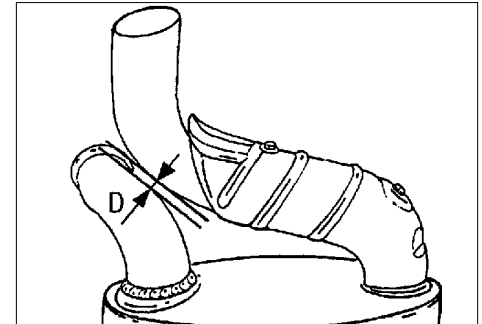
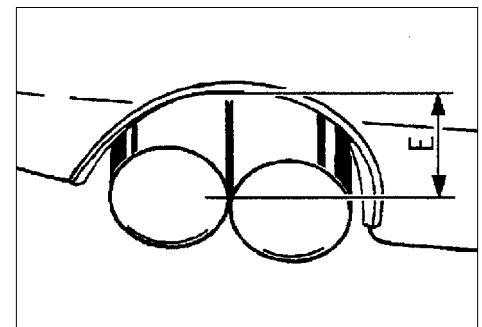

Figure 5
Figure 6
- gap D = 3 to 5mm (figure 5) from the inlet pipe;
- Perform visual inspection to determine whether gap D = 3 to 5mm (figure 5), distance E = 60mm (figure 6), and whether the dual tailpipe is symmetrically positioned in the rear spoiler cut-out;